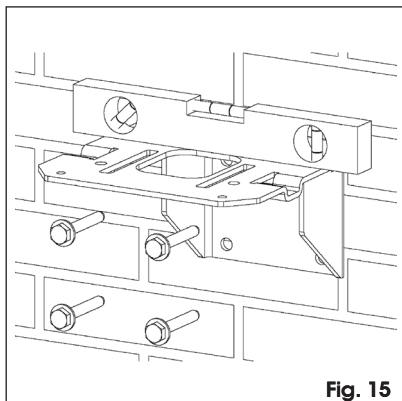

Fig. 15
2. Fix the motor support in the determined position, using four expansion plugs with M10 screws, and respecting the orientation in Fig. 15.